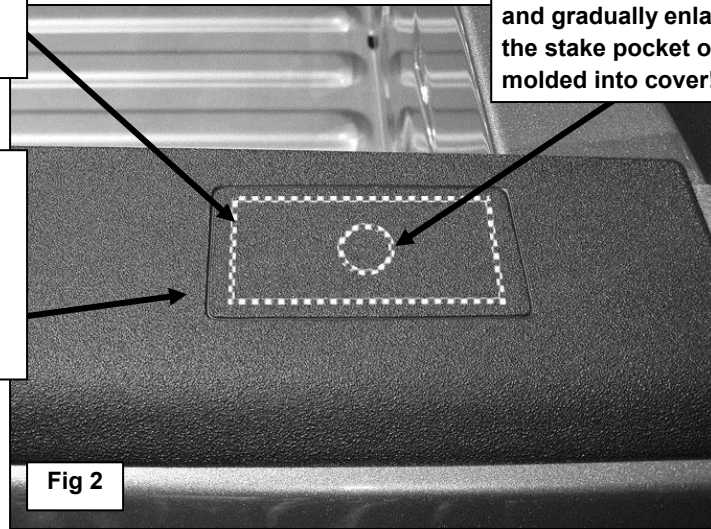

Fig 2
- b. **On vehicles without removable covers:** Locate the center of the stake pocket. Carefully cut or drill a small opening in the plastic cover in the center of the stake pocket. **WARNING**, verify exact location of stake pocket before drilling/cutting plastic cover or damage to top of bedside may result. Gradually enlarge the opening to the size of the stake pocket only, (**Figure 2**). **IMPORTANT, DO NOT** cut along factory lines molded into the plastic cover as these lines may not represent the correct location or size of the stake pocket and may be larger than the actual stake pocket opening.